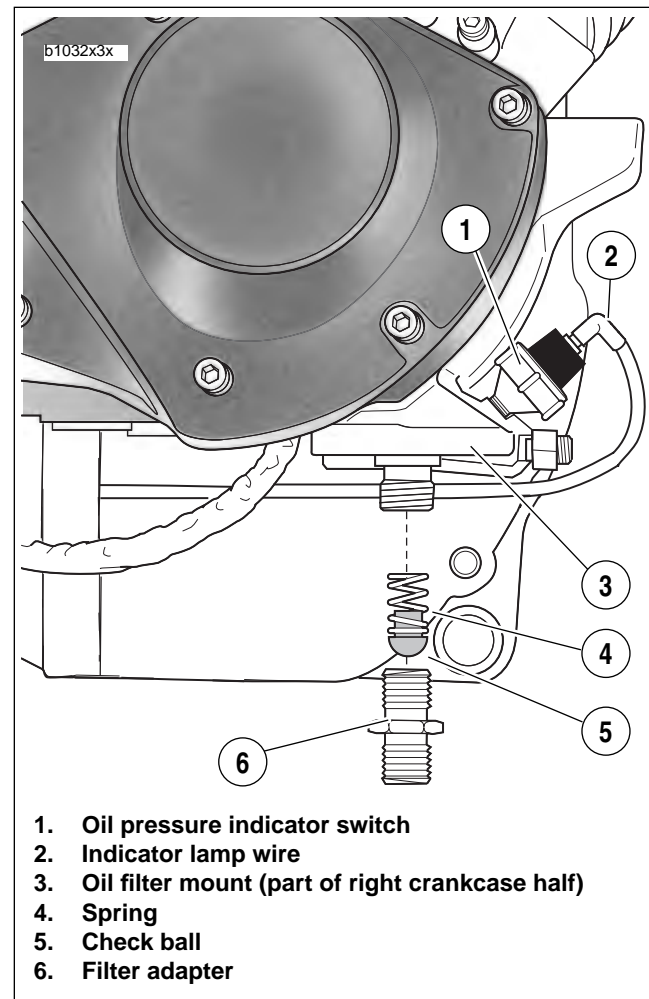

Figure 3-124. Oil Filter Mount Assembly
See Figure 3-124. Oil is pressure-fed from the oil pump to the oil cooler via an external steel line. From the oil cooler, oil flows to the oil filter mount. Oil travels through the filter mount into the filter through the outer filter holes.
3. See Figure 3-124. Remove filter adapter (6) from filter mount (3). Remove check ball (5) and spring (4).
4. Detach indicator lamp wire (2) from oil pressure indicator switch (1). Remove switch using OIL PRESSURE SENDING UNIT WRENCH (Part No. HD-41675).
1. See Figure 3-124. Install oil pressure indicator switch (1) using OIL PRESSURE SENDING UNIT WRENCH (Part No. HD-41675). Tighten to 50-70 **in-lbs** (6-8 Nm).
2. Attach indicator lamp wire (2).